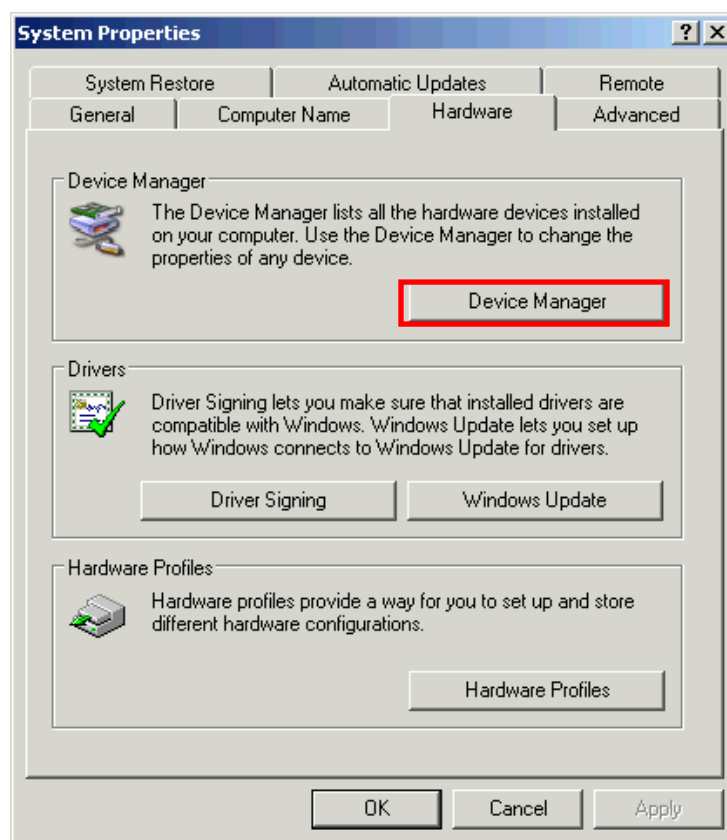

Figure 11: System Properties/Hardware Tab/Device Manager Button
10. On the *System Properties* dialog box, open the Hardware tab and then click the *Device Manager* button (see Figure 11).